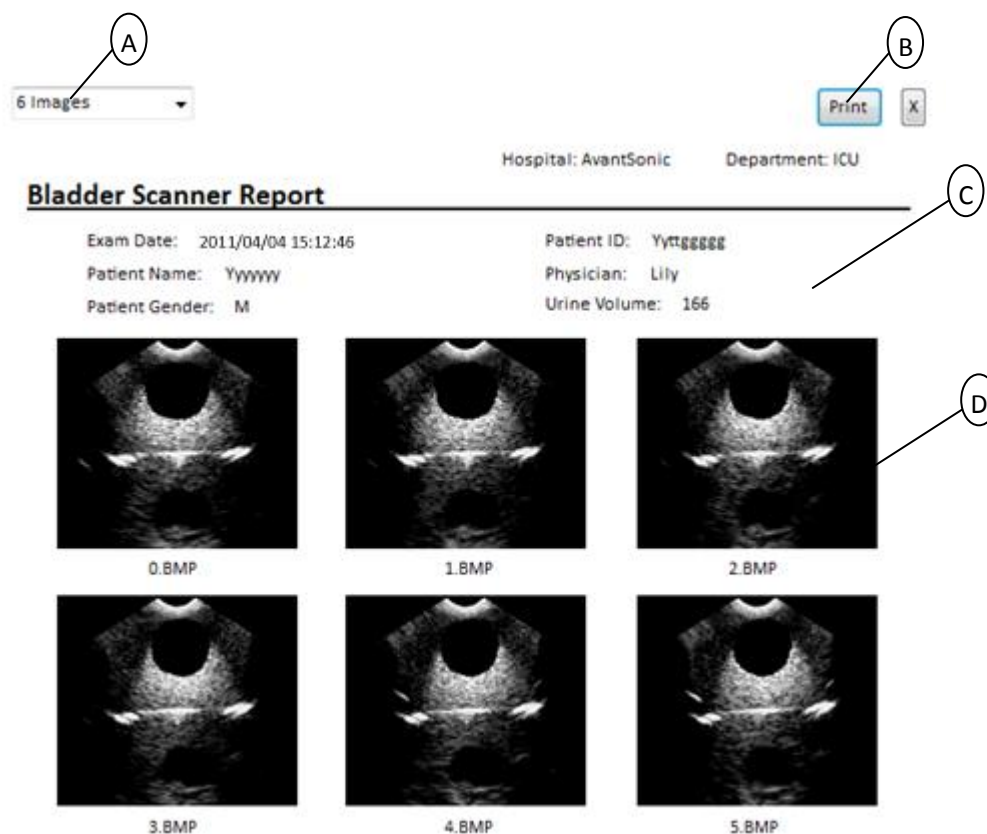

Figure 6-3 Interface of the PC of PadScan Z5 (6 images)
Click the Print in the main interface of PC, the Print interface appears, which includes: 6 or 12 images selection box, print key, hospital name, department name, patient information and bladder ultrasound images. Click 6 or 12 images selection box and select 6 Images, 6 bladder ultrasound images will display in the print interface (Figure 6-3). Click Print key (6 or 12 images selection box, print key and X key will not be